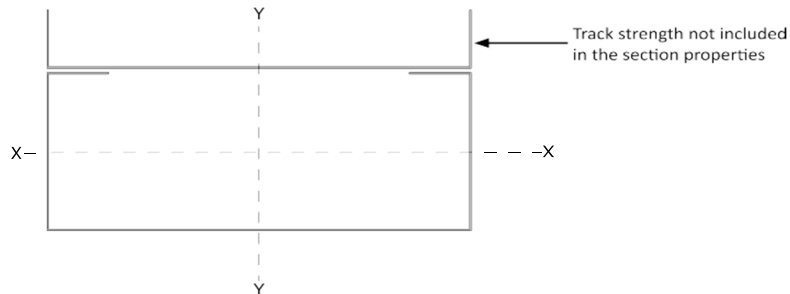

FIGURE 2 – HD HEADER ASSEMBLY AND FLUSH MOUNT CLIP
4.1 HD Header with Flush Mount Clip Assembly: As illustrated by Figure 2 of this report, the components and assembly for the Priceless HD Header and Kwik-Jamb System include the HD Header, which is a C-shaped member, the Kwik-Jamb Stud, which is also a C-shaped member, and Flush Mount Clips. The Flush Mount Clip is an external connector mechanically attached to the HD header and to the supporting vertical Jamb stud. Part numbers and corresponding section properties are provided in Table 2 of this report.
4.3.2 Flush Mount and Saddle Clips: The Flush Mount clips described in this report is an external end connection detailed in Figures 2 and 3 of this report. The Flush Mount Clip is manufactured from hot-dipped galvanized sheet steel. All flush mount clips are manufactured using 54 mil (1.37 mm) minimum thickness material conforming to SSFSA's SS101-13 published specification for steel with a minimum yield strength (F_y) of 57 ksi (393 MPa) and a minimum tensile strength (F_u) of 65 ksi (448 MPa). The Flush Mount Clips are available in 3½-inch (89 mm), 3⅝-inch (92 mm), 4-inch (102 mm), 5½-inch (140 mm), 6-inch (152 mm), and 8-inch (203 mm) lengths to match the corresponding web width of the HD Header.